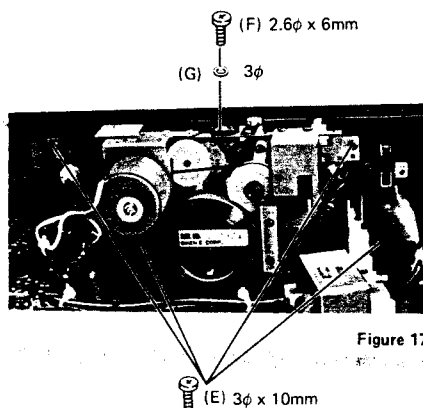

Figure 17
2. Remove four screws (E) from Front panel then mechanism assembly can be removed. (See Figure 17).
3. Remove one screw (F) and one washer (G) from Front panel.